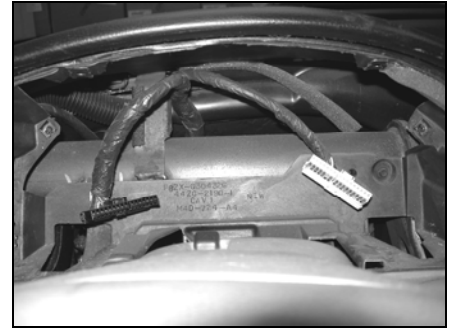

Figure 5
- C. Disconnect the two harness connectors from the backside of the cluster. (See Figure 5)